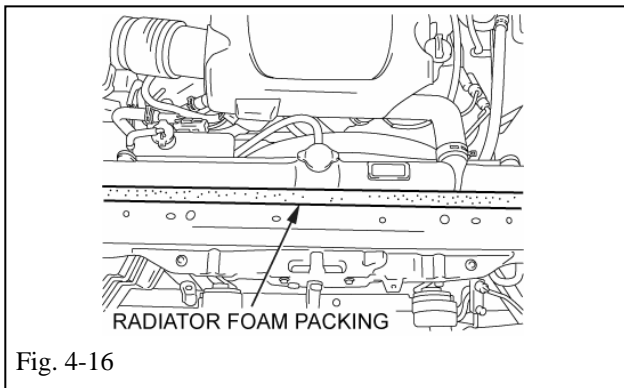

Fig. 4-16
- (q) Restore the radiator foam packing to the original position. (Fig. 4-16)